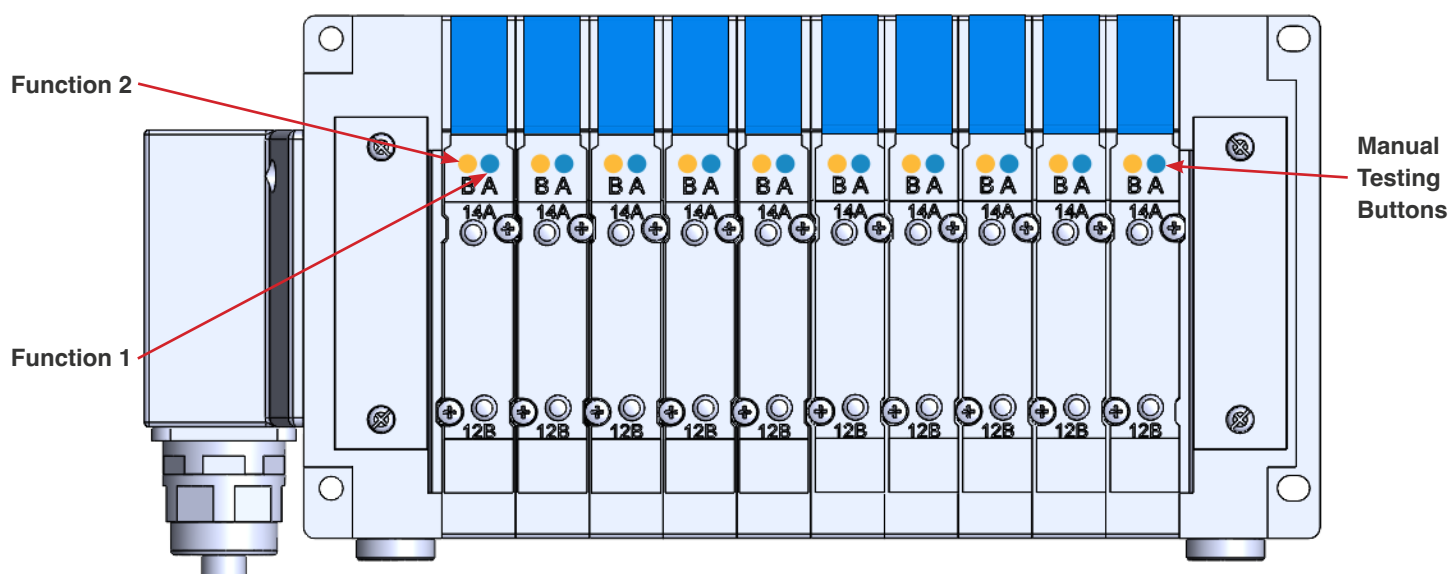

Fig. 4.4.2 - 1 - Air Control Manifold solenoid testing buttons
2. Press in the blue or yellow button on the front of each solenoid card on the Air Control Manifold (Fig. 4.4.2 - 1).